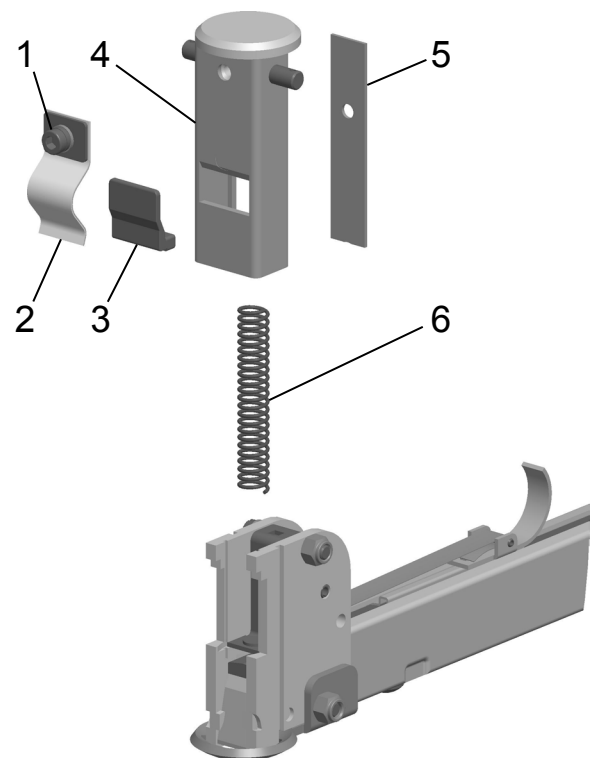

Fig. 16
3. Loosen the screw (Fig. 16/1). Squeeze the stapler head and remove the staple trip block (16/3).